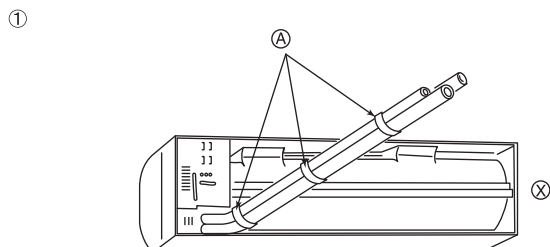

Fig. 3-4
① Rear, right and lower piping (Fig. 3-4)